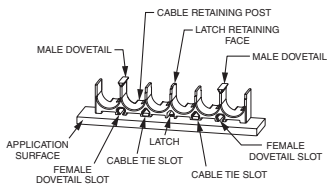

Figure 1
- 1) Secure bottom level of Stackable Cable Rack Spacer to the application surface, i.e. ladder rack rung with two standard cross-section *PANDUIT PAN-TY* Cable Ties (Figures 1, 2, and 3).